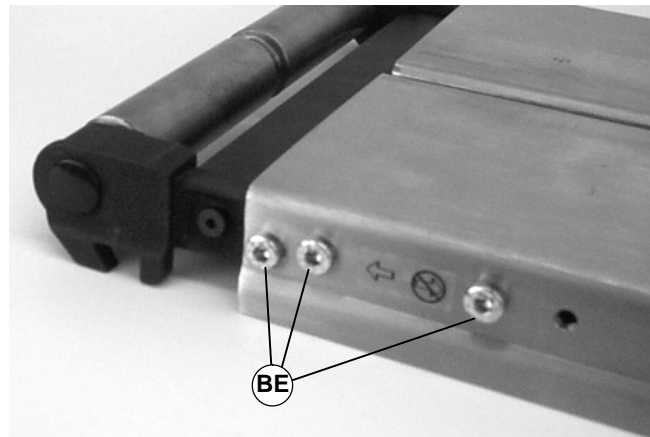

Figure 42
1. Remove three (3) screws (BE of Figure 42) on both sides of conveyor.